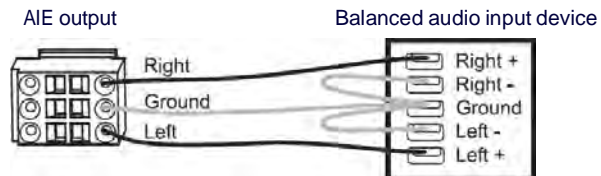

FIG. 110 Standard wiring from AIE to balanced audio input device
- Wire the AIE connector as follows: AIE L to device L+; AIE R to device R+; AIE ground to device R-; and a jumper from device R- to device L- (see FIG. 110 below).
FIG. 110 indicates the standard way to wire an AIE connector to a balanced audio input device: